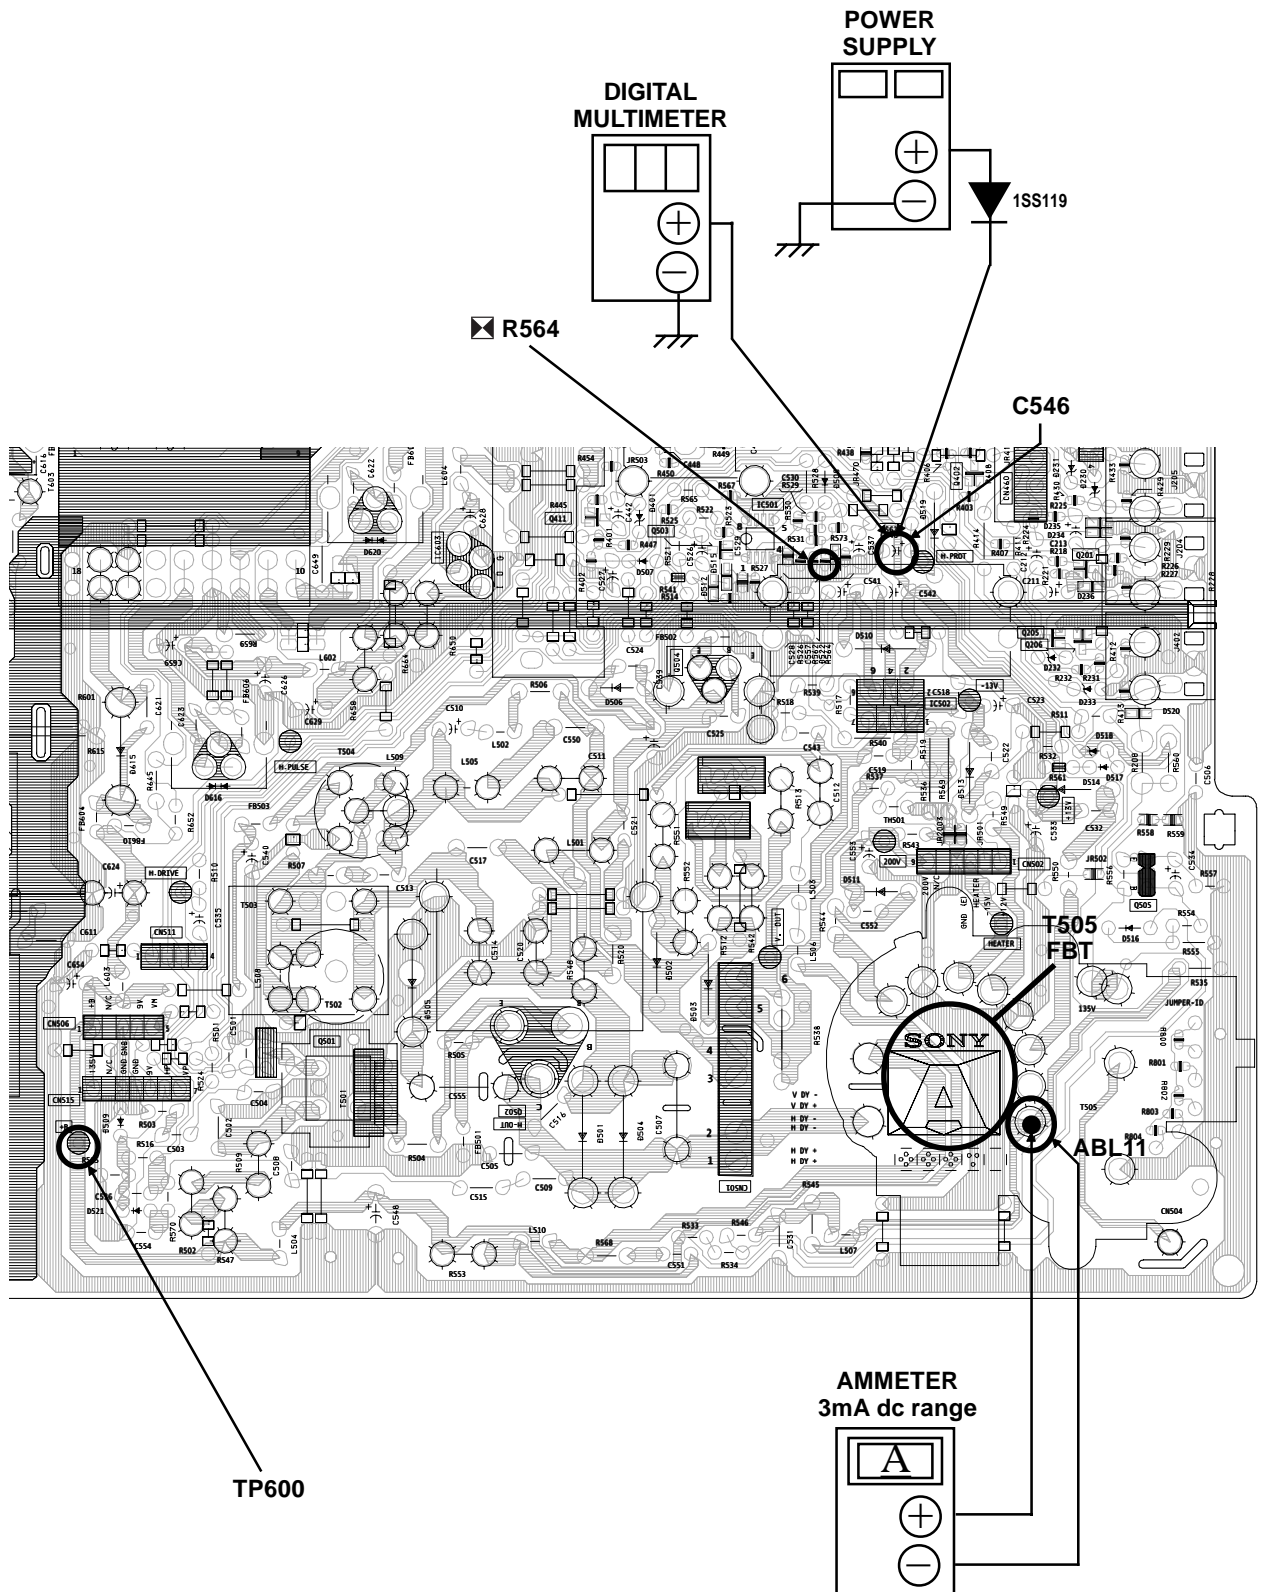

Figure 1
- 1. Connect the current meter between Pin 11 of the FBT (T505) and the PWB land where Pin 11 would normally attach. (See Figure 1 on the next page.)
- 4. Connect the digital voltmeter and the DC power supply via diode 1SS119 to C546 (+) and ground. (See Figure 1 on the next page.)